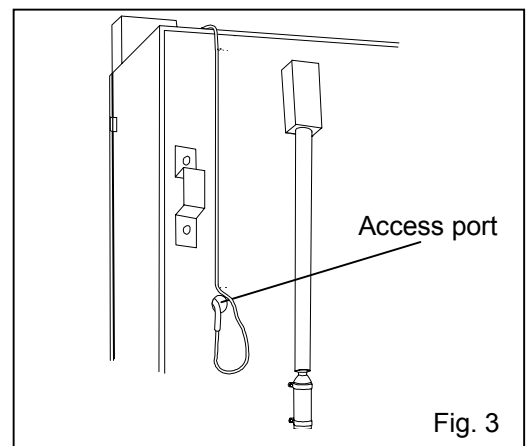

Fig. 3
4. Take the temperature sensor into the units chamber through the access port. (Fig. 3)
5. Remove the wire grille on the back bottom of the unit. See Fig. 3